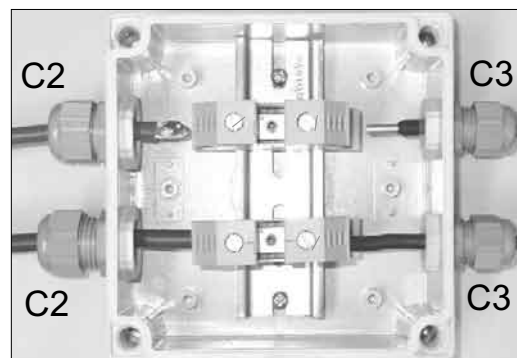

Fig. 4.6.b
The connection box ① is the dividing point when Furlex Electric drive unit is to be removed from the boat. See fig. 4.6.a.